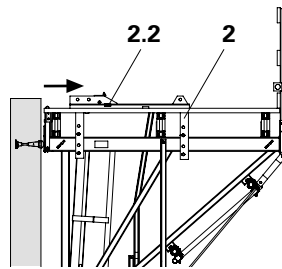

Fig. B2.05
1. Retract Carriage CB 240 (2) and secure with wedge (2.2). (Fig. B2.05)